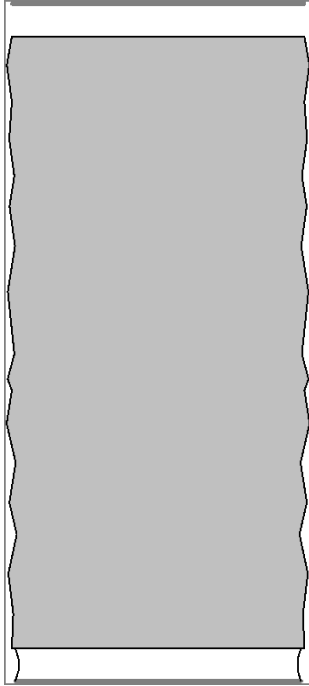

FIGURE 12.28: The solid pattern covers the previous pattern. You'll fix this in a moment.
14. On the Mode panel, click Finish Edit Mode, and then press Esc. Your brick should look like Figure 12.28.